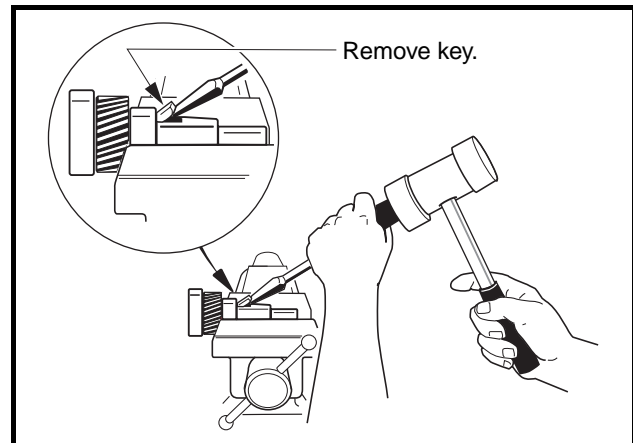

Figure 17b-15 Remove Key
8. Press the bearing (20) off the intermediate gear assembly (Figure 17b-4, Page 17b-3).